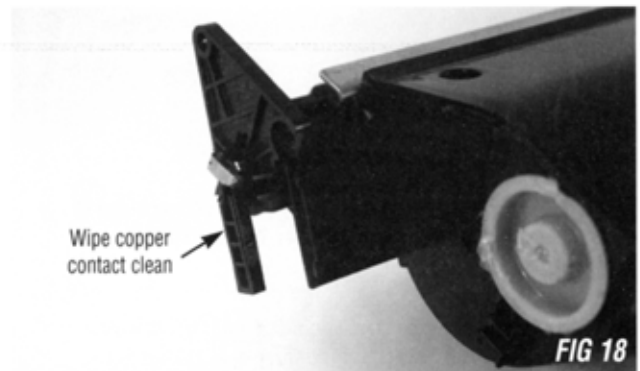

FIG 18
3. Make sure the printer contact arm on the axle cover is free of toner and debris. Wipe the contact clean with a lint-free cloth. (Figure 18)